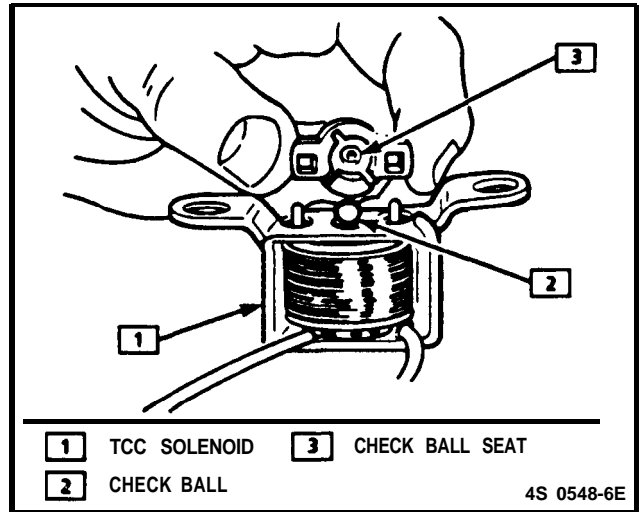

Figure C8-1 - TCC Solenoid
The Torque Converter Clutch (TCC) system, used on a Hydramatic 4L60 transmission, uses a solenoid operated valve, (Figure C8-1) to couple the engine flywheel to the output shaft of the transmission through the torque converter. This reduces the slippage losses in the converter, which increases fuel economy.
- The ECM completes a ground circuit to energize a TCC apply solenoid in the transmission which moves a check ball in a fluid line (Figure C8-1). This allows the converter clutch to apply, if the hydraulic pressure is correct, as described above.